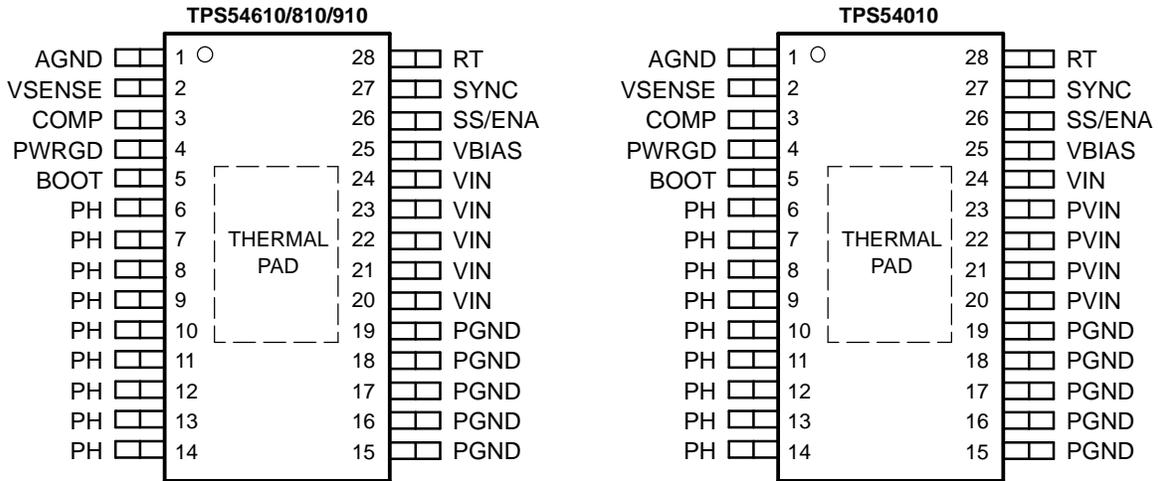

Figure 1. TPS54610/810/910 vs TPS54010 Pinout
The TPS54610, TPS54810, TPS54910, and the TPS54010 have different input voltage ranges, but they all share a common input capability from 3 V to 4 V, allowing the layouts of these devices to be interchangeable. The drain-to-source resistance of the MOSFETs in each of these four devices differs, along with the current limit trip point. Although the change in MOSFET resistance should not be a major factor affecting the stability of the power supply, it is a good idea to use the SWIFT designer software tool (<http://www.ti.com/swift>) to check if the values of compensation resistors and capacitors need to be modified. If the cross-over frequency and phase margin of the original design were conservative, most probably no changes are needed to meet the application's stability criterion. Because the MOSFET resistance affects the thermal considerations of board layout, it is a good idea to check the package dissipation and the thermal performance of the new device with respect to the circuit board. Application report SLVA201 provides thermal comparisons of the 6-A, 8-A, 9-A, and 14-A SWIFT devices in the 28HTSSOP package. Note that in Figure 1 the TPS54010 provides a VIN pin (pin 24) in addition to the PVIN pins, which allows the integrated circuit (IC) to be biased at 3.3 V for gate drive and logic functions. Therefore, a lower input voltage, such as 2.5 V, may be applied to the PVIN pins. The PVIN and VIN pins can be tied together allowing the TPS54010 to operate from 3 V to 4 V and share pin compatibility with the other devices.